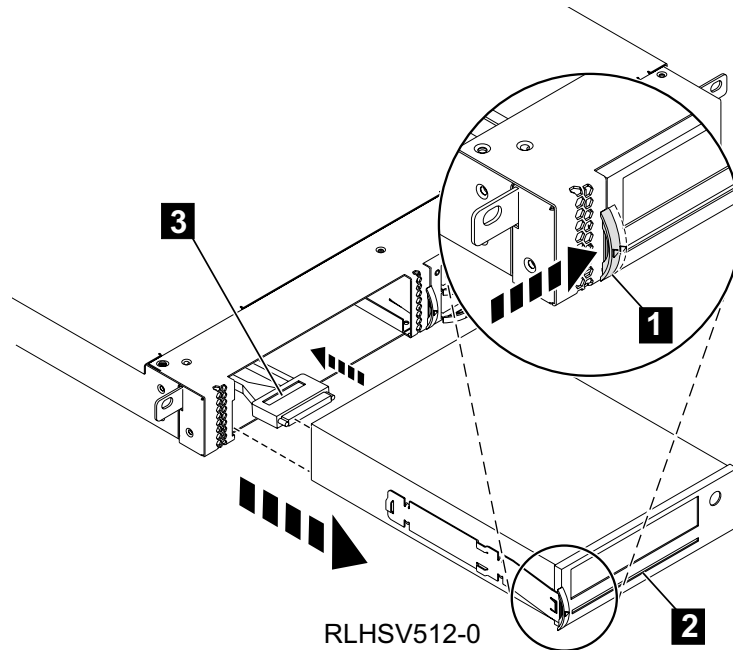

Figure 5. Removing the DAT72 Drive Assembly
1. Push the latch (see **1** in Figure 5) towards the drive assembly.